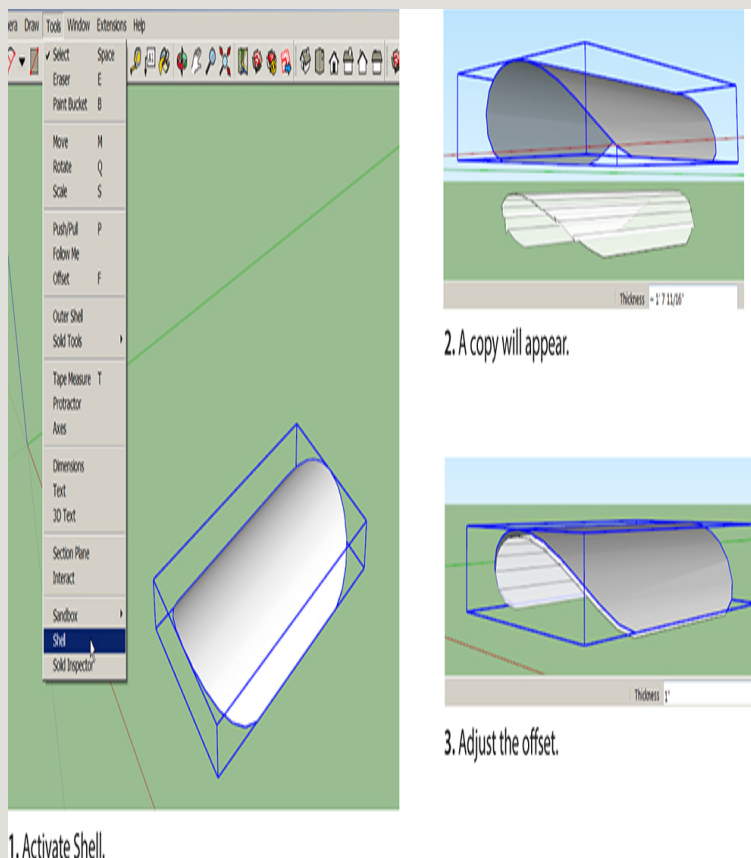

Figure 4-33 Use the Shell extension to give the nail thickness.
9. Give thickness to the nail (Figure 4-33).